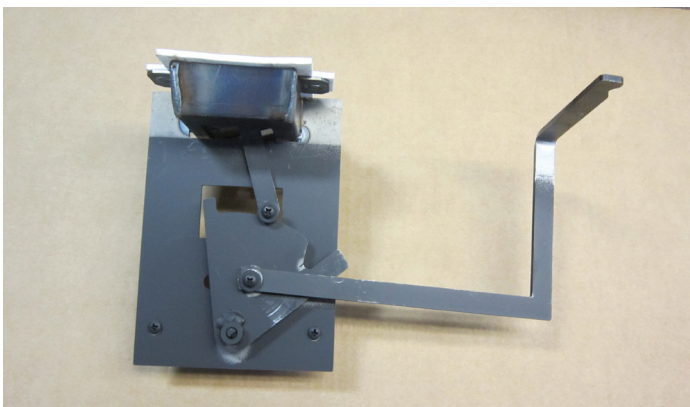

Figure 4.16 Timer Assembly with Gasket
- Insert the new timer assembly (see Figure 4.16) into the access door with the back side towards you. Please note the correct position of the linkage arm in Figure 4.15.